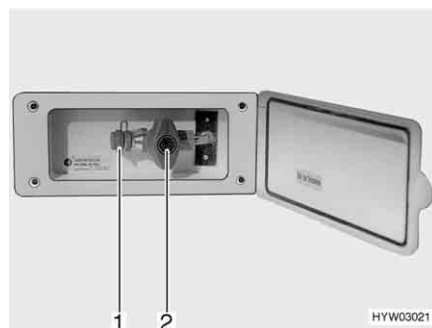

Fig. 127 External gas connection, gas isolator tap closed
The external gas connection (Fig. 127) is located at the rear or to the left or right of the vehicle depending on the model.
- Connect the external gas device to the connection point (Fig. 127,1).
- Open the gas isolator tap (Fig. 127,2).